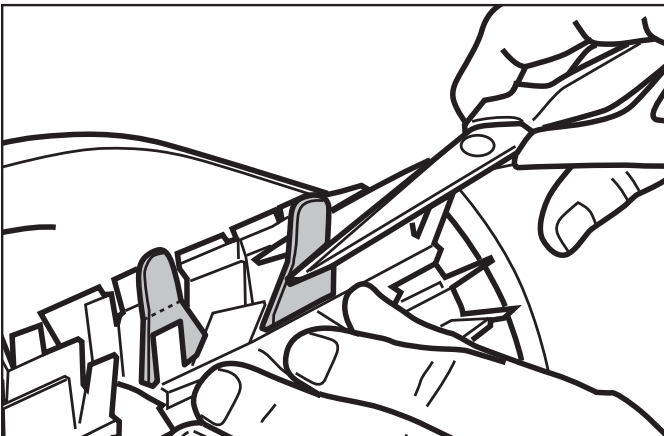

Figure 28. Cut Tabs
5. Use scissors to cut the tabs so they are no higher than the spikes (see Figure 28).